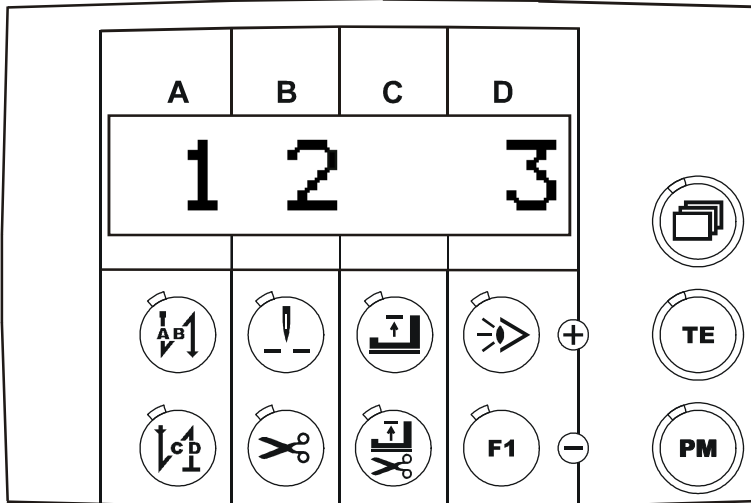

Fig. 9.6
- Keep these two keys pressed until "1 2 3" (Fig. 9.6) appears on the display; then release the keys.